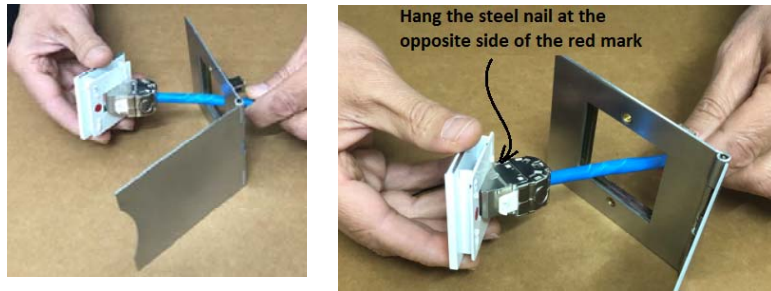

Figure 3.
**STEP#2-** The “MK-3M fit-up” has two plates, (thick one which is the front finishing, and thin one dedicated to hold the 3M socket body). Hang the steel nail of the 3M socket to the opposite side of the red mark at the “MK-3M fit-up” as illustrated within (Figure 3).